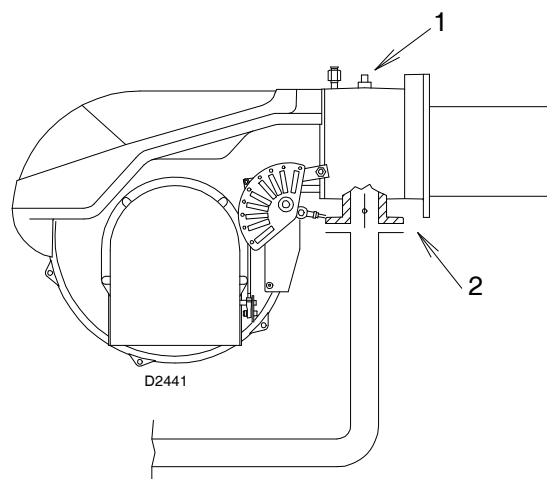

Fig. 31
Gas manifold pressure measured at test point 1) (Fig. 31), with:
- subtract the combustion chamber pressure from the gas pressure measured at test point 1) (Fig. 31).
- Gas pressure at test point 1)(Fig. 31) = 7.2" WC